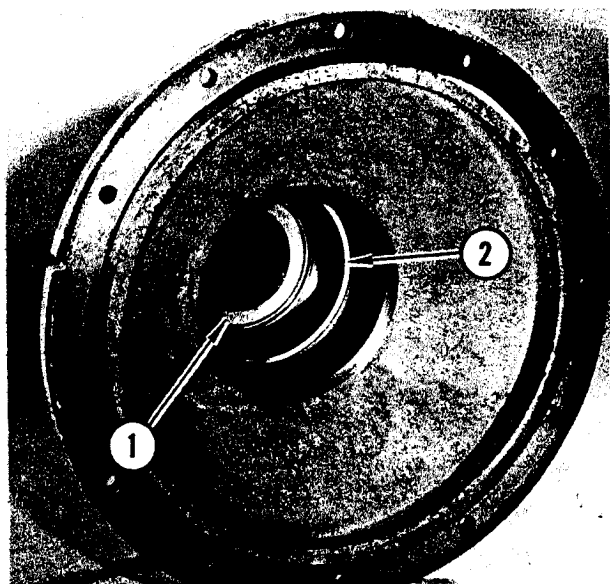

FIGURE 110. HOUSING SEAL REMOVAL
Refer to Figure 110. Remove oil seal (1) and bearing cup (2) from outer eccentric housing. NOTE: To drive bearing cup from housing, first remove three slotted pipe plugs from hub of eccentric housing. Insert a small punch through these openings to drive against bearing cup.